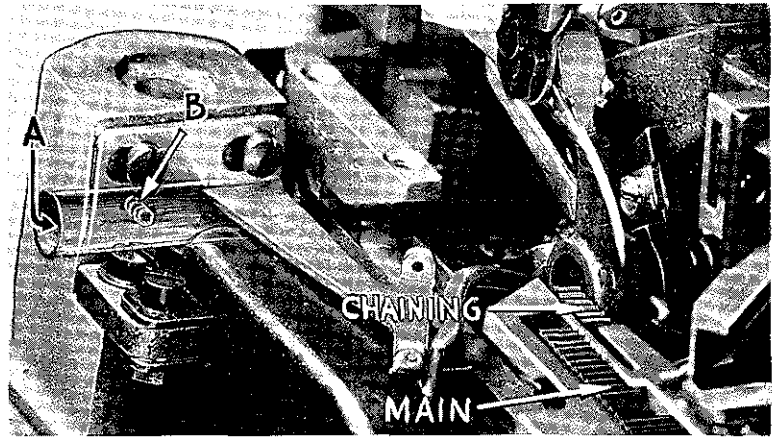

Fig. 11
Feed Dogs should be leveled with throat plate surface by rotating feed tilting adjusting pin (A, Fig. 11). This pin raises or lowers the back end of feed bar. Feed dogs should be set level at the time teeth first appear above throat plate. Screw (B) locks feed tilting adjusting pin in place. Now set feed dogs at highest point of travel: main feed dog teeth set  $\frac{3}{64}$  inch above throat plate; and chaining feed dog teeth set about flush with surface of throat plate.